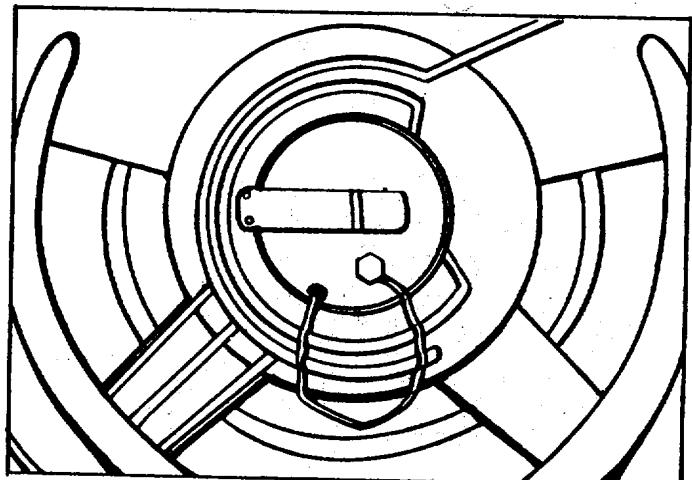

Fig. 7. Proper alignment of oil well cover on end shield
2. A recess in the perimeter of the oil well cover (see Fig. 7) provides electrical clearance for the switch and allows the switch arm and wear pad to move freely.
5. Press on the new end cap and oil-well cover. Align the locating mark on the oil-well cover with the locating boss on end shield (see Fig. 7). Use a sealing compound on those surfaces where the cap and the cover mate with the end shield. Be sure the spring-steel thrust plate is properly located before assembling the oil-well cover.